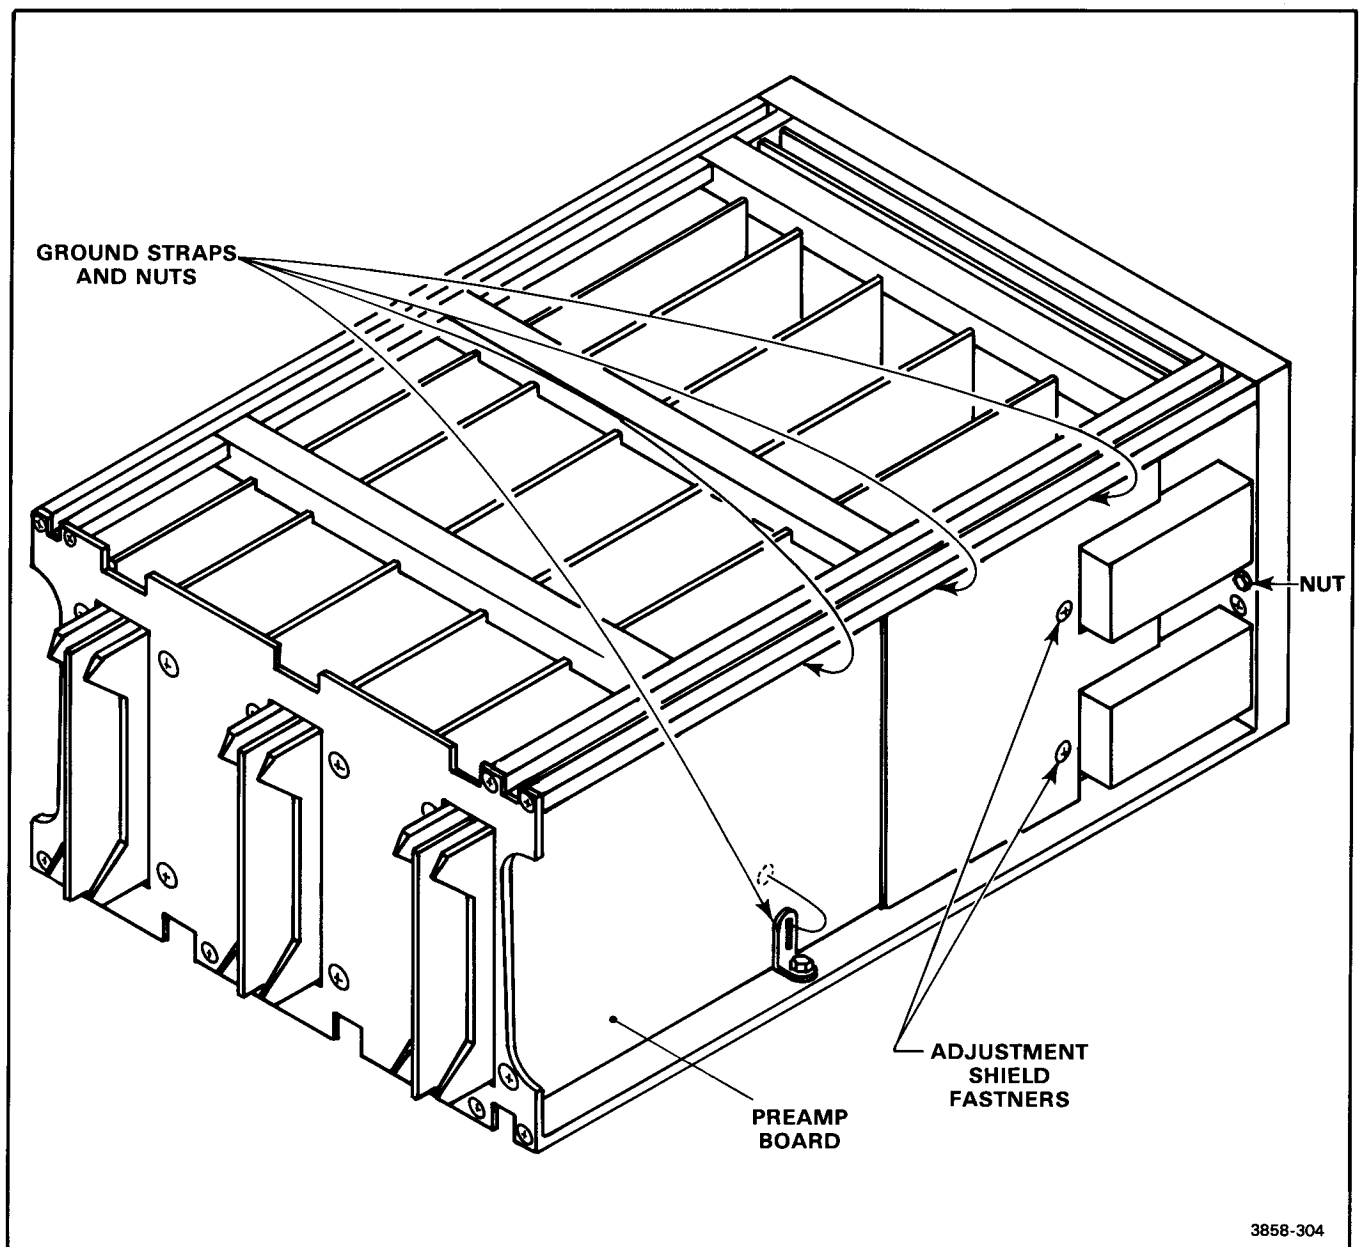

Figure 3-8. Preamp Board removal.
5. Using a 5/16-inch nutdriver, remove the nut that secures the attenuators to the front casting. See Figure 3-8.